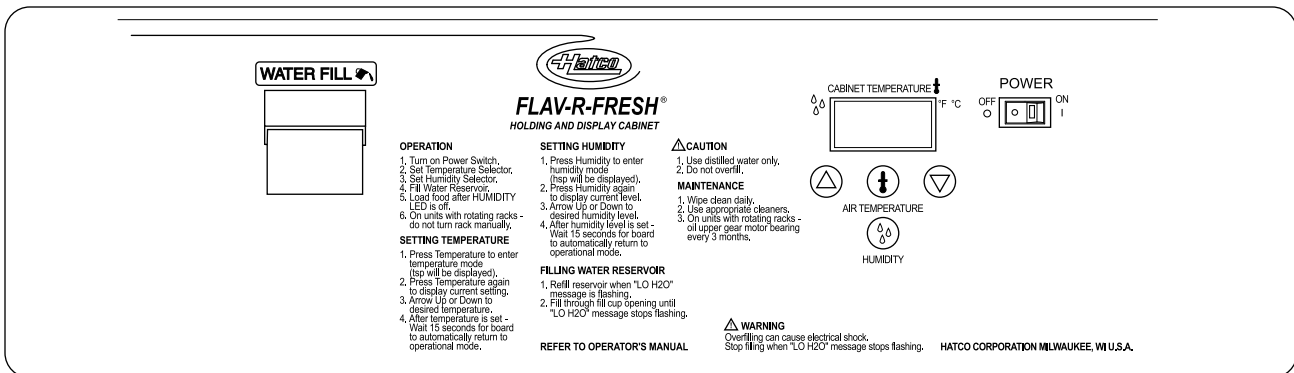

Figure 9. Flav-R-Fresh® Control Panel
3. Fill the water reservoir with **softened or distilled** water. To fill the reservoir, lift up the fill cup cover and pull forward (see Figure 9.). Slowly pour the water into the cup until "LO H2O" stops flashing on the CABINET TEMPERATURE display.